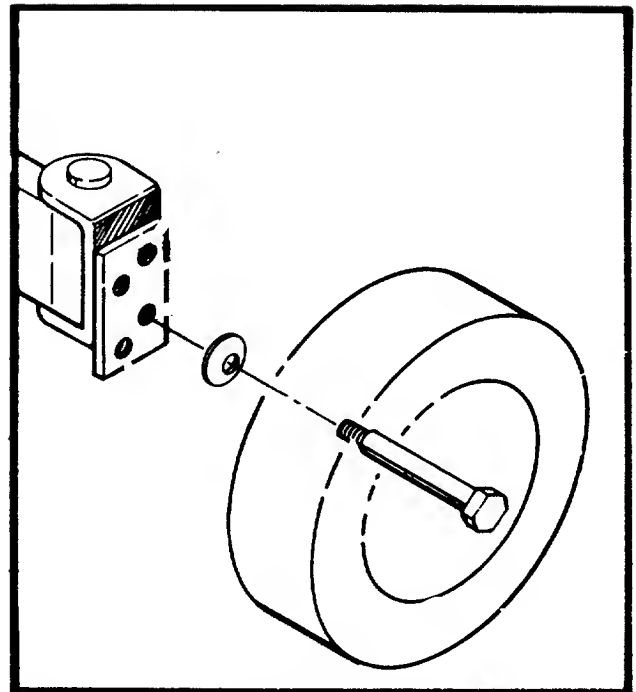

FIGURE 14. FRONT WHEEL ADJUSTMENT
- H. The height adjustment for the cutting blade is made by removing the front axle bolts and moving the front wheels to one of the four cutting positions. See figure 14.